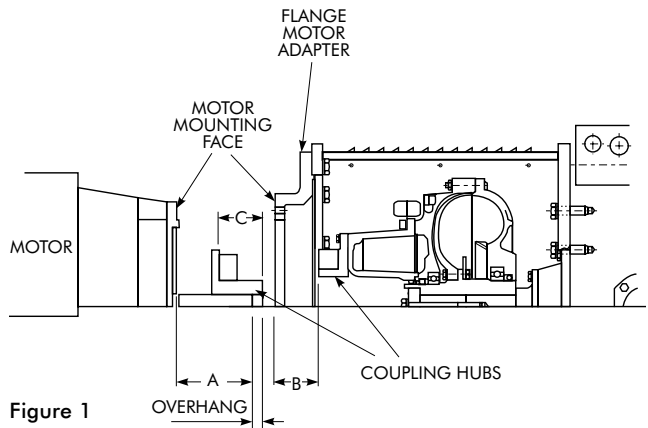

Figure 1
— Accurate axial positioning of the coupling hub on the motor shaft is required to ensure proper coupling gap. To establish the correct overhang on the motor shaft, measurements are required. Refer to Figure 1 below. First measure the distance from the motor mounting face of the motor to the end of the motor shaft (A). Then measure the distance from the motor mounting face of the motor adapter to the face of the gear drive hub (B). Refer to the coupling installation and maintenance instructions to determine the desired coupling gap. The coupling overhang is determined from the following equation:
**NOTE:** For couplings where the coupling gap does not occur at the end of the motor hub, an additional adjustment must be made. See dimension C in Figure 1 below.